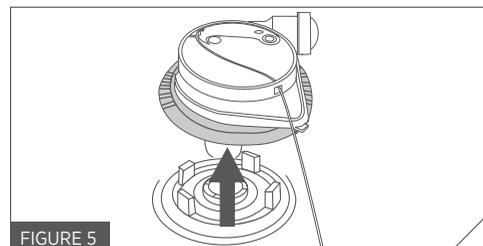

FIGURE 5
6. Once you can no longer turn the black locking ring, you will be able to pull the entire inflator cap (yellow piece and black locking ring together) off the PFD (Fig. 5). Discard this used inflator cap. (Through the clear O-ring, you will now see the used inflator body – which looks like a black circular disc – attached to your used gas cylinder.)